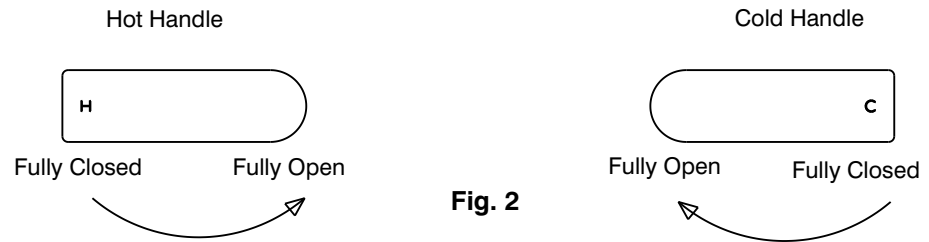

Fig. 2
- 3) To install ceramic disc cartridges (3), remove protective cap (4), locknut (5) and fibre washer from cartridge (3). Screw each cartridge (3) into tap body (1). Using a suitable spanner, tighten cartridge (3) until it comes to a firm stop. (DO NOT TIGHTEN CARTRIDGE USING SPINDLE). Fit fibre washer and then locknut (5) and tighten using a suitable spanner.
- 4) Ensure handle insert (11) is in position in handle (12). With cartridge spindles in the fully closed position, align handles (12) as shown in Fig (2) before pushing handle (12) fully onto spindle (6). For small adjustments to handle positions, cartridge (3) can be rotated **slightly** in an anti-clockwise direction until handles are aligned (Fig.2) before tightening locknut (5). Remove handles (12).
- 5) Screw wall flange (7) over each installed cartridge, and tighten fully by hand against wall/tile face, taking care not to damage the decorative finish.
- ii) Place retaining nut (9) over spindle (6), with slot facing flange (7).
- iii) Place retaining clip (10) into groove at bottom of spline in spindle (6).
- iv) Ensure handle insert (11) is in position in handle (12). Fit handle (12) to spline of spindle, position handle as before then push firmly until it bottoms internally.
- v) Screw retaining nut (9) into handle and tighten with spanner (8) provided.